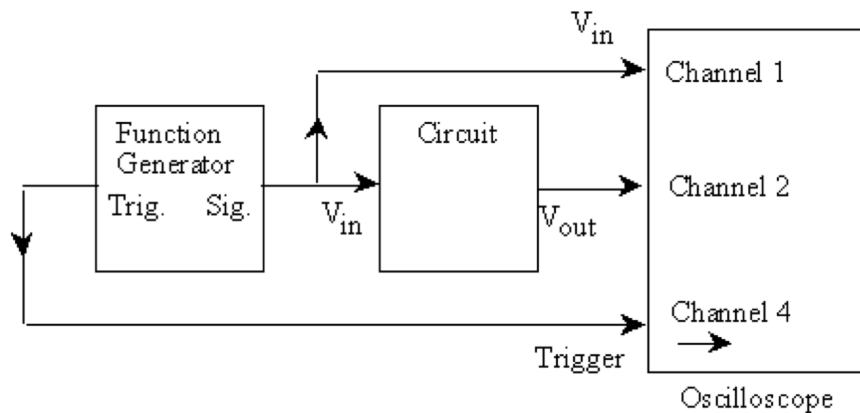

Figure 3. Test and Measurement Set-up.
Step 4	<p>Prepare to test the circuits</p> <ol style="list-style-type: none"> Connect the circuit board to the function generator and the oscilloscope as shown in Fig. 3. It is always helpful to display both the input voltage as well as the output voltage on the scope at the same time. Test your setup by creating a 1 kHz sine wave at 1 volt p-p using the function generator and confirm the waveform frequency and amplitude by measuring the signal on the scope. Trigger the scope on the Sync. output of the function generator.